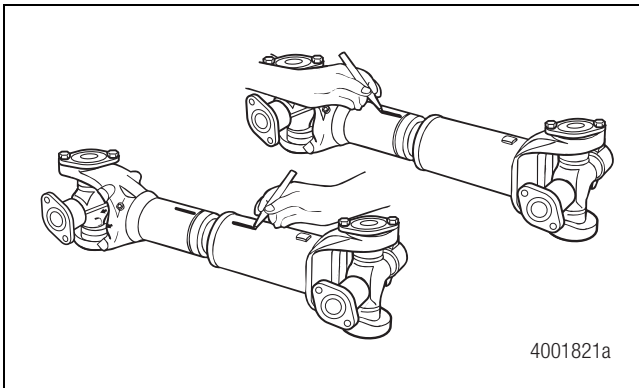

Figure 5.4
2. Mark the slip yoke and slip shaft sections to ensure that you reassemble them into their original positions. Figure 5.4.